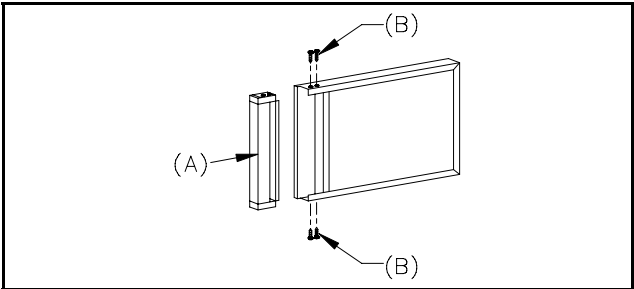

Figure 7
The Norcold refrigerator door provides slots for inserting a decorative panel. Installation of the panel is accomplished by removing the handle assembly, inserting the decorative panel, and re-inserting the handle assembly (see Figure 7).
- 2. Remove handle assembly (A) by removing four screws (B). See Figure 7.